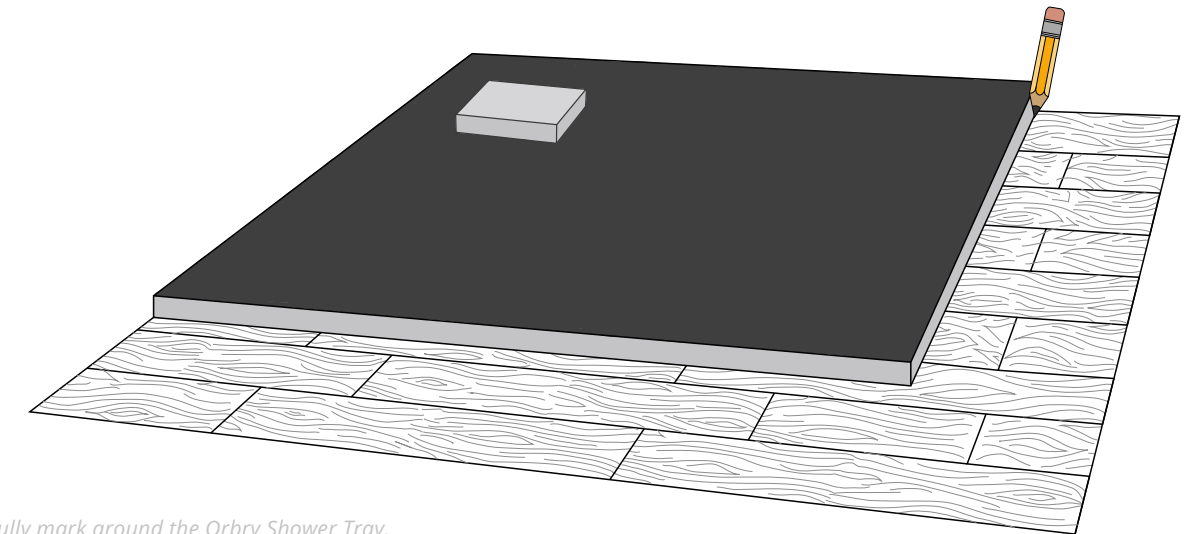

Fig. 6
2. Carefully mark around the Orbry Shower Tray (Fig. 6).